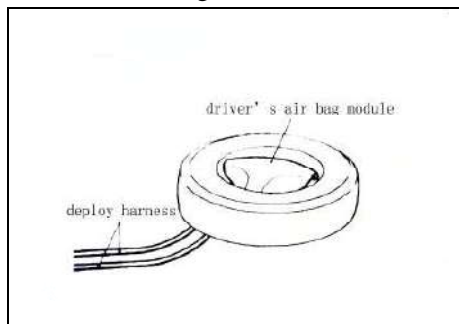

Fig 19-49
6) Rout the deployment harnesses connected to the driver's air bag module beneath an old tyre and wheel assembly .Then ,using the wire tied to the bolt, secure the driver's air bag module to the tyre and wheel assembly with deployment surface facing up. (See fig 19-49)